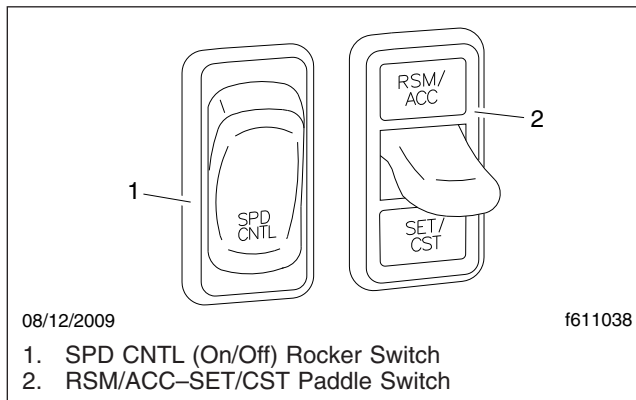
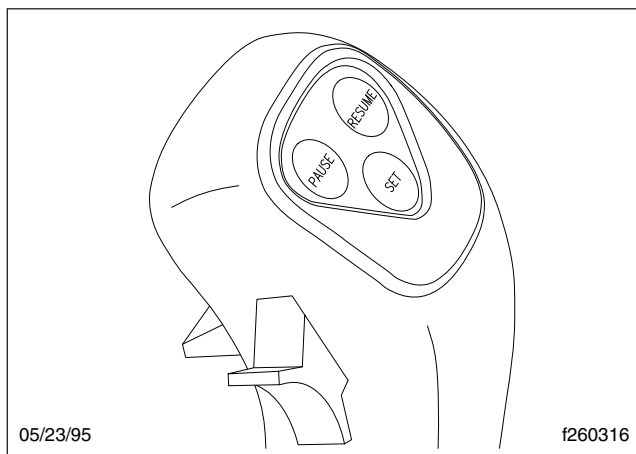

Fig. 10.3, Cruise Control Switches, Dash-Mounted
Fig. 10.4, Cruise Control, Transmission Shift Knob Buttons
The cruise control is activated by the SPD CNTL (on/off) and RSM/ACC–SET/CST switches on the dash (**Fig. 10.3**), or by optional PAUSE, RESUME, and SET buttons on the transmission shift knob (**Fig. 10.4**). The minimum speed at which cruise control can be used is 30 mph (48 km/h). The minimum and maximum speed cruise control set limits can be programmed, by authorized personnel, into the engine electronics.
- Remove your feet from both the clutch and throttle pedals. Press the dash-mounted ENG BRK switch to toggle the engine brake ON. See Fig. 10.4.